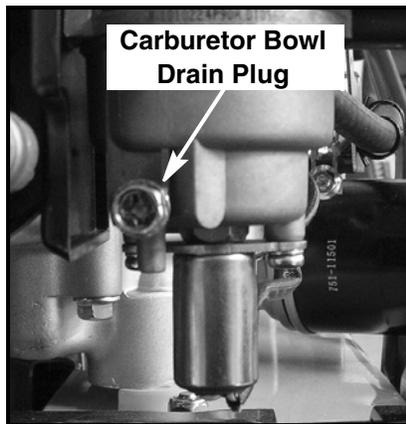

FIGURE 3
4. Drain the fuel tank or clamp off the fuel line to the carburetor. Drain the carburetor's fuel by removing the fuel bowl drain plug and gasket, P/N 951-11349. When bowl is drained, replace the fuel bowl drain plug and gasket. See Figure 3. **Torque the drain plug to 7 - 9 Nm (62 - 80 In-Lbs)**